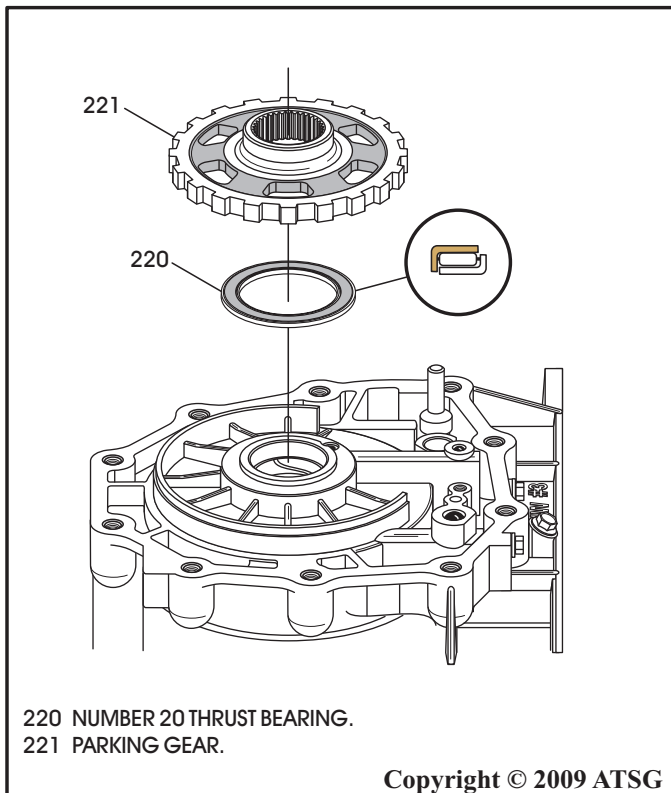

Figure 209
40. Install the number 20 thrust bearing onto the case, as shown in Figure 209, with the gold side facing up.
41. Install the parking gear on top of the bearing, as shown in Figure 209.